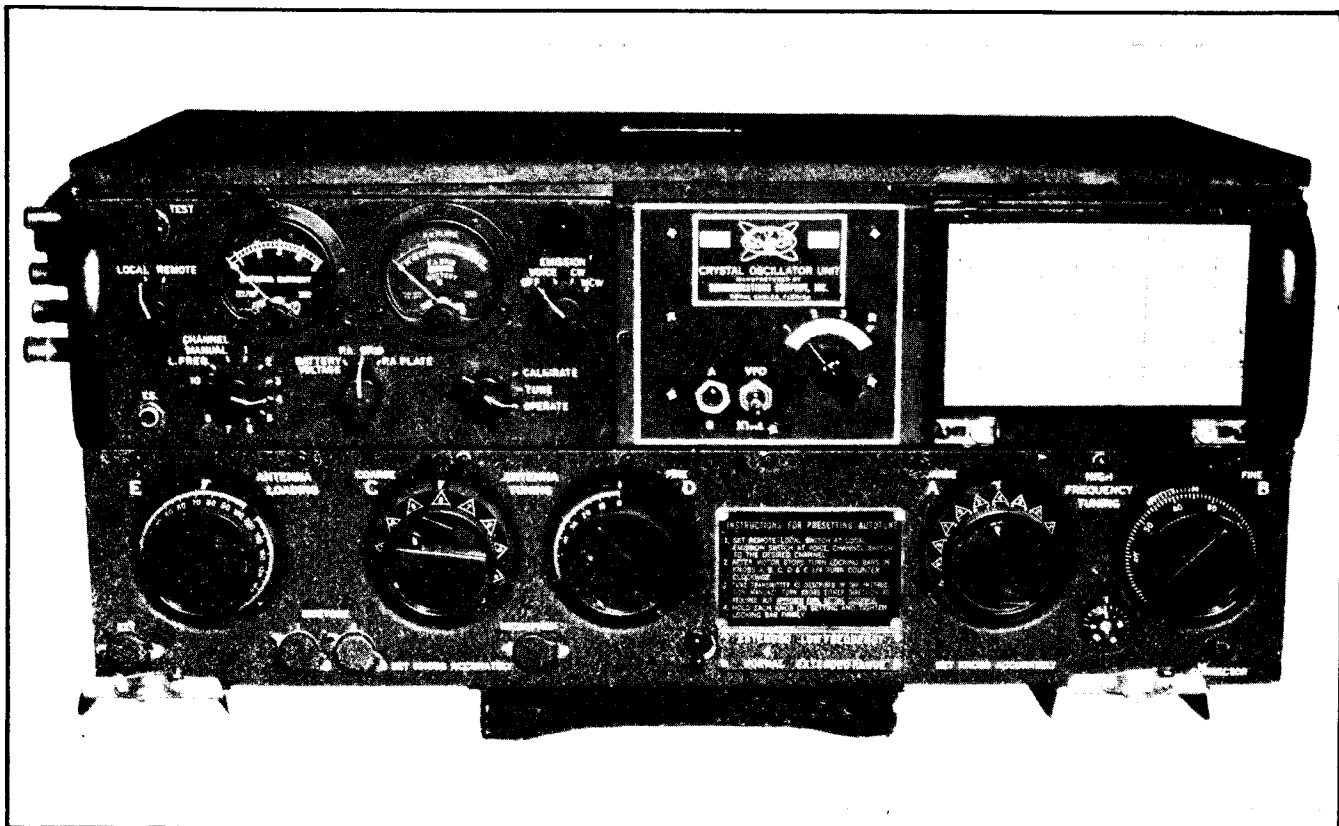

Figure 1-2A. Radio Transmitter T-412/ART-13B — Front View
(2) TRANSMITTER T-412/ART-13B.—Used as the basic unit of Radio Transmitting Set AN/ART-13B, this transmitter (see fig. 1-2A) provides both variable frequency oscillator and crystal-controlled oscillator operation. Four bands of transmission frequencies are available. The basic unit, utilizing VFO operation, covers the frequency range of 2000 kc. to 18,100 kc. Plug-in oscillator units are required to obtain additional frequency ranges. Low frequency VFO unit O-17/ART-13A covers the range 200 kc. to 600 kc. When the